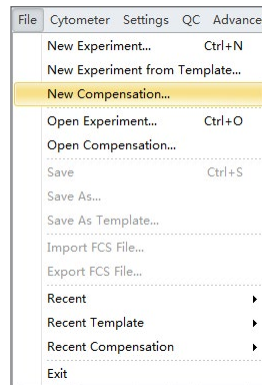

Figure 12. CytExpert File sub menu options.
1. Select “New Compensation” from the File menu for the acquisition of the single stains (Figure 12).